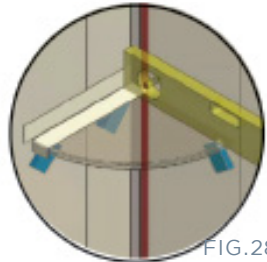

FIG.28
- Place the shelf in position to confirm that it is level. If required, adjust the stabiliser blocks to suit. Optional -apply insulation/gaffa tape to shelf/wall to prevent bleeding of the adhesive onto the wall or shelf.(FIG 28).